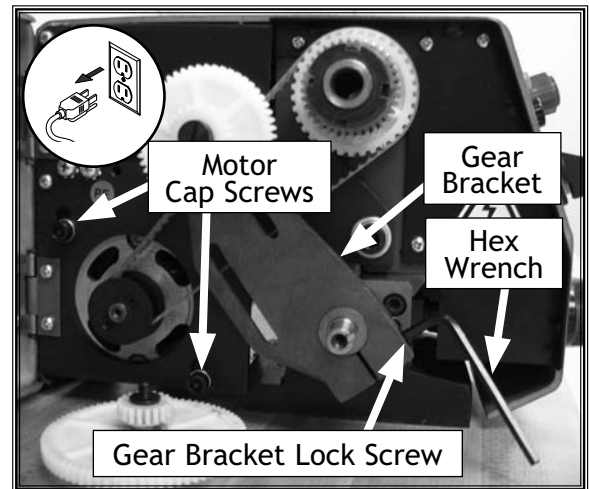

Figure 7. Belt adjustments.
3. Using a 4mm hex wrench, loosen the gear bracket lock screw, and let the gear bracket fall away from the drive position (see **Figure 7**).
4. Using a 5mm hex wrench, loosen the motor cap screws (**Figure 7**) and remove the belt.